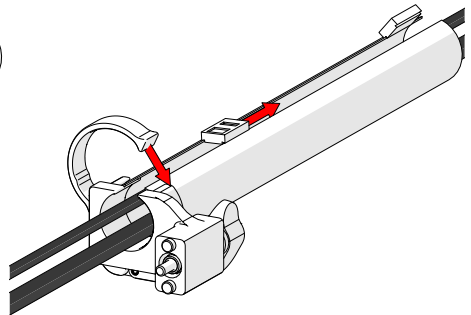

Fig. 282 - Zip to close
2. Follow the cable placement zipping the tube closed (Fig. 282).